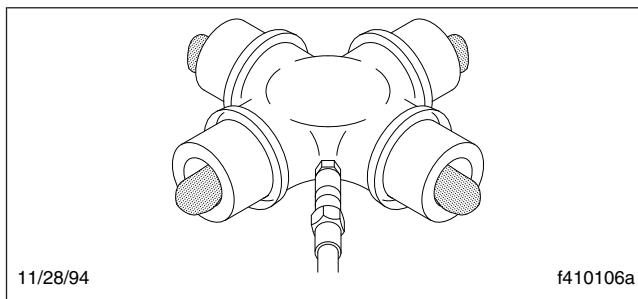

Fig. 9, Forcing Out Old Lubricant From a U-Joint Cross
2. Using a hand-type grease gun, apply multipurpose chassis grease to the fitting on each U-joint cross until all old lubricant is forced out. See Fig. 9. Examine the old lubricant. If it appears rusty, gritty, or burnt, replace the U-joint assembly.